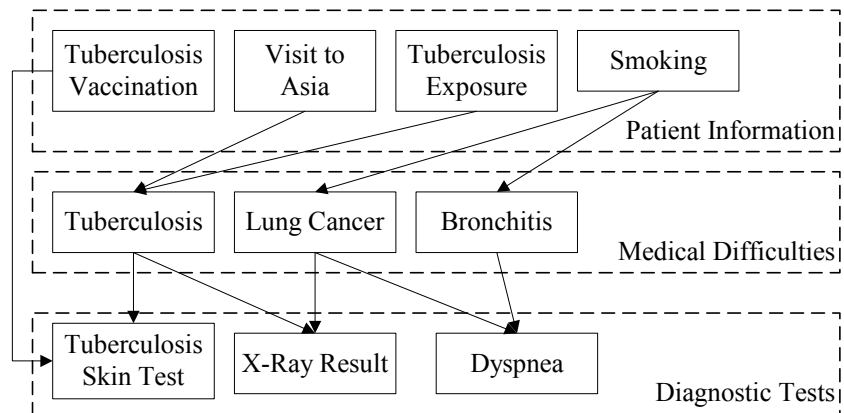

Figure 15. A Bayesian Network For Diagnostic Analysis of Medical Tests
- Figure 15 provides simplified schematics of these dependencies.